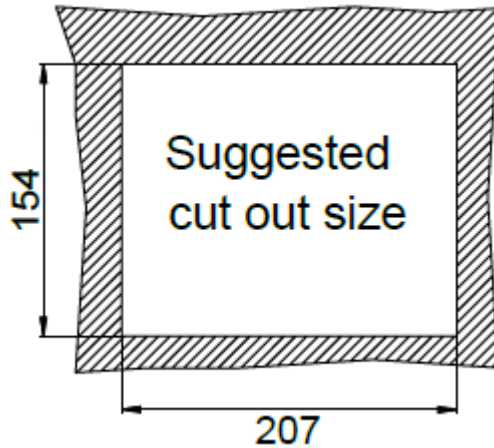
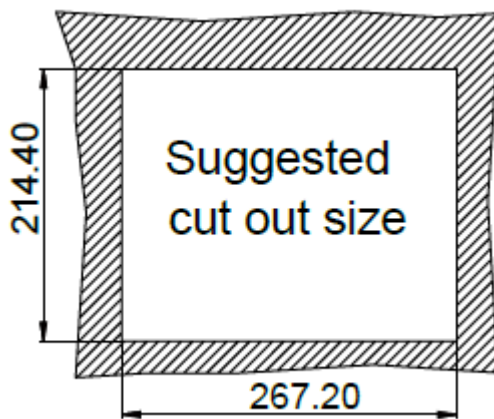

Figure 3-23: PPC-F08B-BT Panel Cutout Dimensions
Figure 3-24: PPC-F10B-BT Panel Cutout Dimensions
- Step 3:** Cut out a section of the panel that corresponds to the rear panel dimensions of the PPC-F08B/F10B-BT. The recommended cutout sizes are shown below (Figure 3-23 and Figure 3-24).